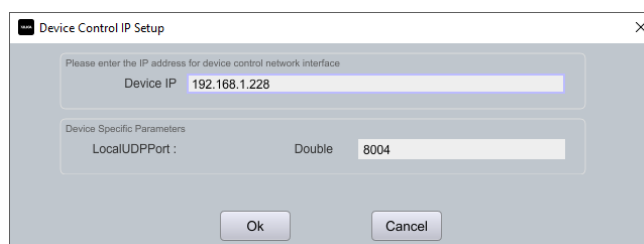

Figure 3 – Screenshot of Control IP Setup in Xilica Designer.
5. Enter the IP Address of the Mezzo you wish to control into the text field (Figure 3).